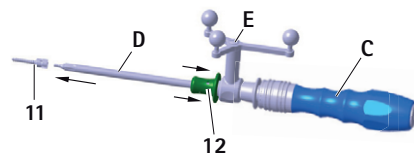

Fig. 9 Pick up the S4C screw with S4C screwdriver
- ▶ Retract and hold the holding sleeve 12 on the S4C screwdriver D, see Fig. 9.